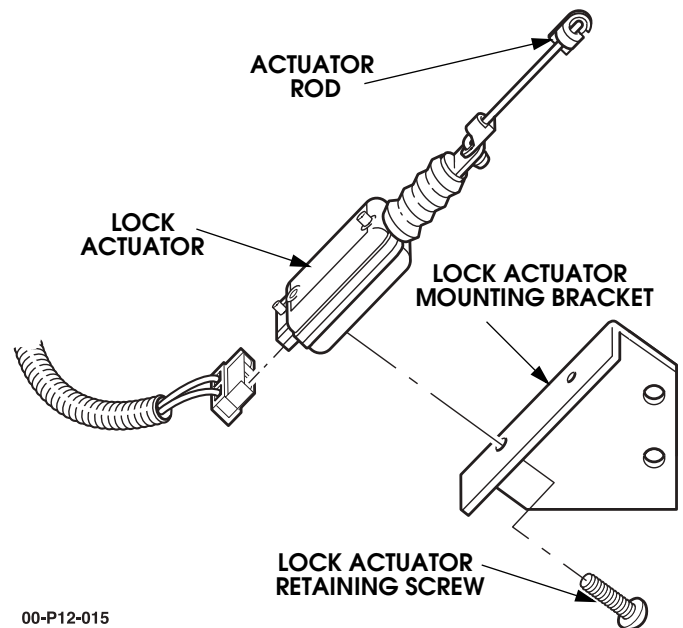

Figure 10-179: Slant Door Lock Actuator Replacement
2. Remove the lock actuator retaining screw (Figure 10-179).
1. Connect the lock actuator rod to the slant door handle assembly (Figure 10-179).